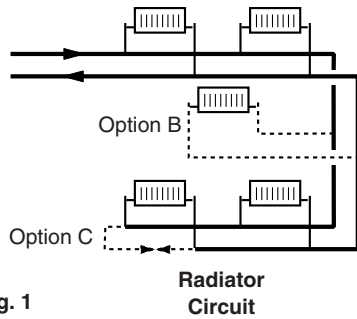
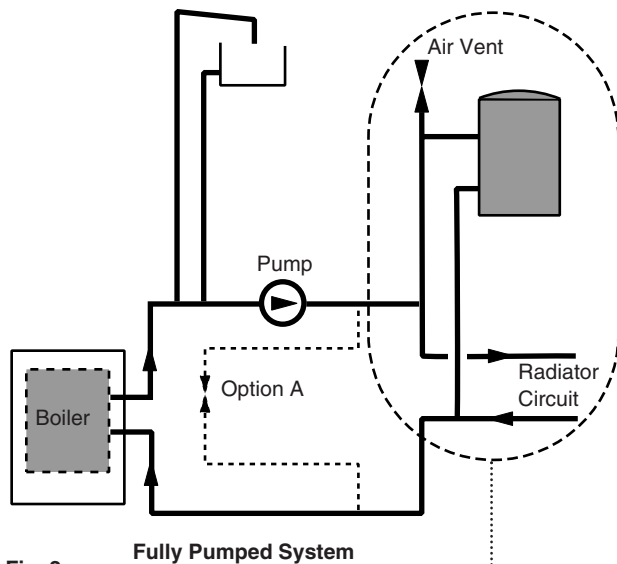

Fig. 1
Fig. 2
NOTE: For 'S' Plan systems the bypass flow circuit must be situated between pump and zone valves as option A shows (Fig. 2).
- For all boilers a minimum of 6 metres of 22mm copper pipe, (measured between the boiler flow and return connections). It should be fitted with a lock shield valve opened at least 1 full turn or a proprietary bypass valve set to give a minimum flow rate of 8 litres/min (1.8 gal/min) (Option C, Fig. 1 & Option A, Fig.2).
- A radiator fitted with lock shield valves. The radiator output should be a minimum of 800 watts (2,700 Btu/h). Typically a convector type radiator with an area of 3750 cm² (4 sq ft) is adequate (Option B, Fig. 1).
- Any circuit that provides the same operating conditions as option A or option B (Figs. 1 & 2).